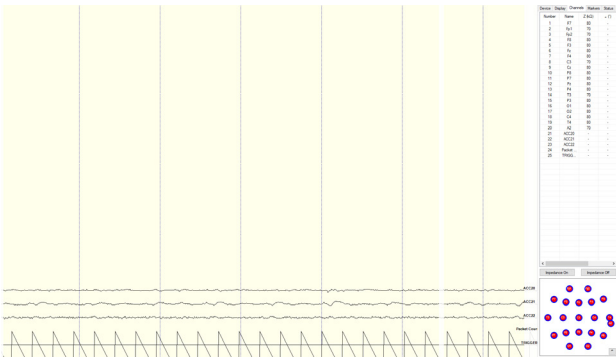

fig. 1
- Impedances match or nearly match at a low value but do not appear on the display or in the impedance head map. (fig. 1)